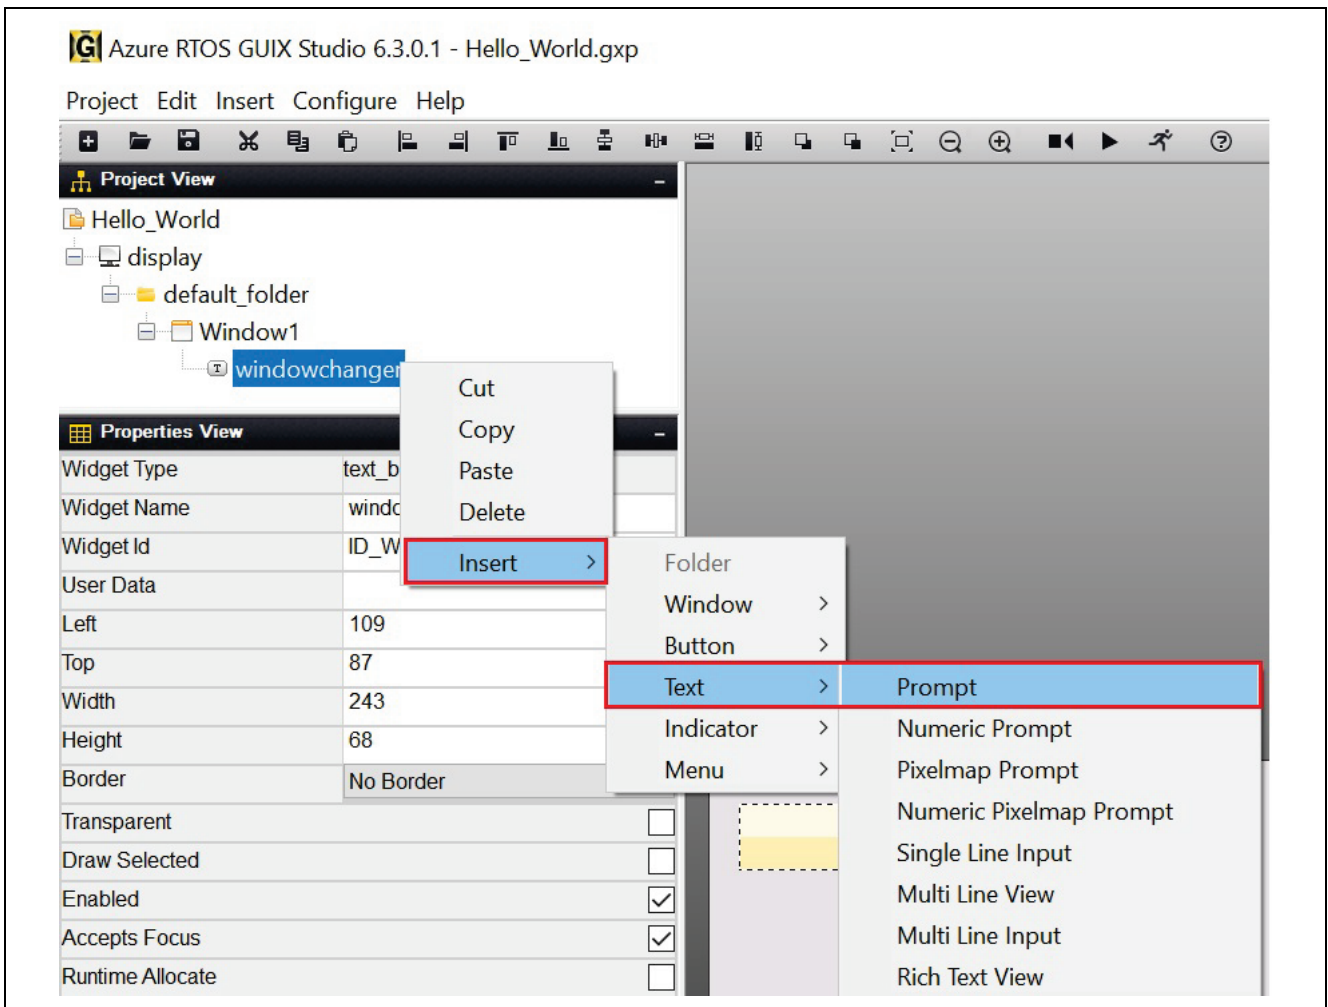

Figure 52. Insert Prompt
13. Right-click **windowchanger** to insert a **Prompt** and follow **Figure 52**.
15. Insert new **Button**. Right-click on **windowchangertext** and follow **Figure 52**.